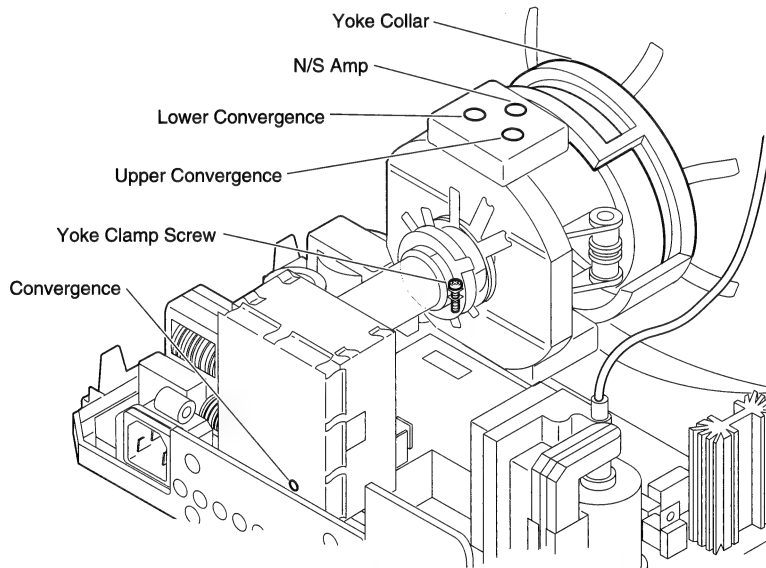

Figure 7 Convergence and Yoke Adjustments
2. FIGURE 7. Using the hex-head adjustment tool, adjust the Convergence control on the CRT video board for best overall convergence.
3. FIGURE 7. Using the adjustment tool, adjust the N/S Amp control on the CRT video board for best convergence of horizontal lines at the top and bottom of the screen.
4. FIGURE 7. Adjust the Lower Convergence control on the CRT video board for best convergence of vertical lines at the bottom of the screen.
5. FIGURE 7. Adjust the Upper Convergence control on the CRT video board for best convergence of vertical lines at the top of the screen.
1. FIGURE 7. Using the insulated screwdriver, loosen the yoke clamp screw with two or three turns.
3. FIGURE 7. With one hand, grasp the plastic yoke collar, and rotate the yoke collar until the top and bottom edges of the picture are parallel with the top and bottom of the bezel.
6. FIGURE 7. Hold the collar in position and carefully tighten the yoke clamp screw so that the collar cannot slip. Do not overtighten the screw.